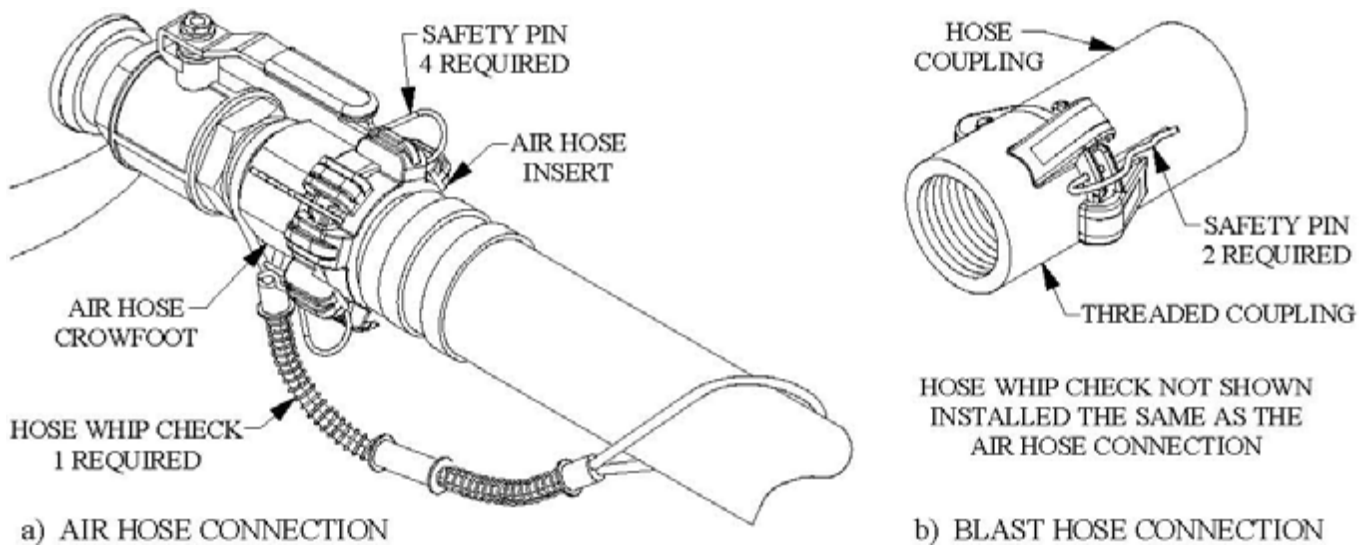

Figure 23
6. All air hose, blast hose, and threaded couplings have pin holes that align when connected. To prevent accidental hose disconnections safety pins must be installed through these holes. Each hose connection must also include a hose whip check that will hold the hose if there is an accidental disconnection. Connect one loop to each side of the connection and stretch out as shown in Figure 23 below. Check hose connections daily and replace missing or damaged pins and whip checks.